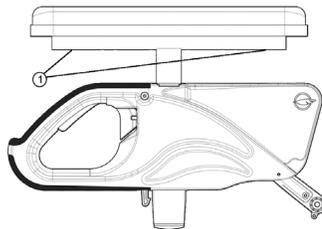

Fig. 18
- Remove screws (1) (Fig. 18) located under pad (through the tube).
- Reinstall screws (1) and tighten firmly.